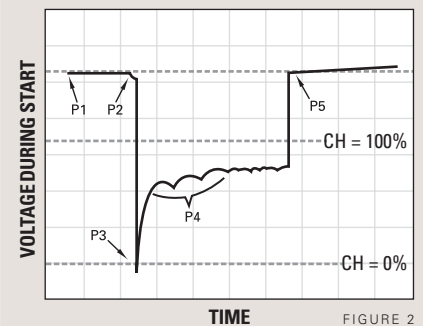

FIGURE 2
- The printed report shows the cranking health percentage and the lowest starting voltage that was measured (Figure 2)